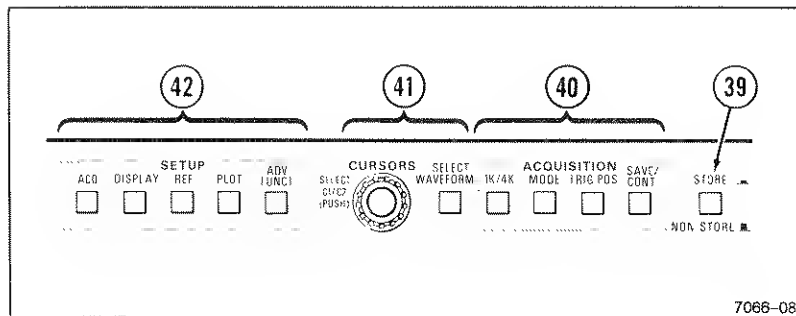

Figure 3-5. Storage Controls.
Refer to Figure 3-5 for location of items 39 through 42.